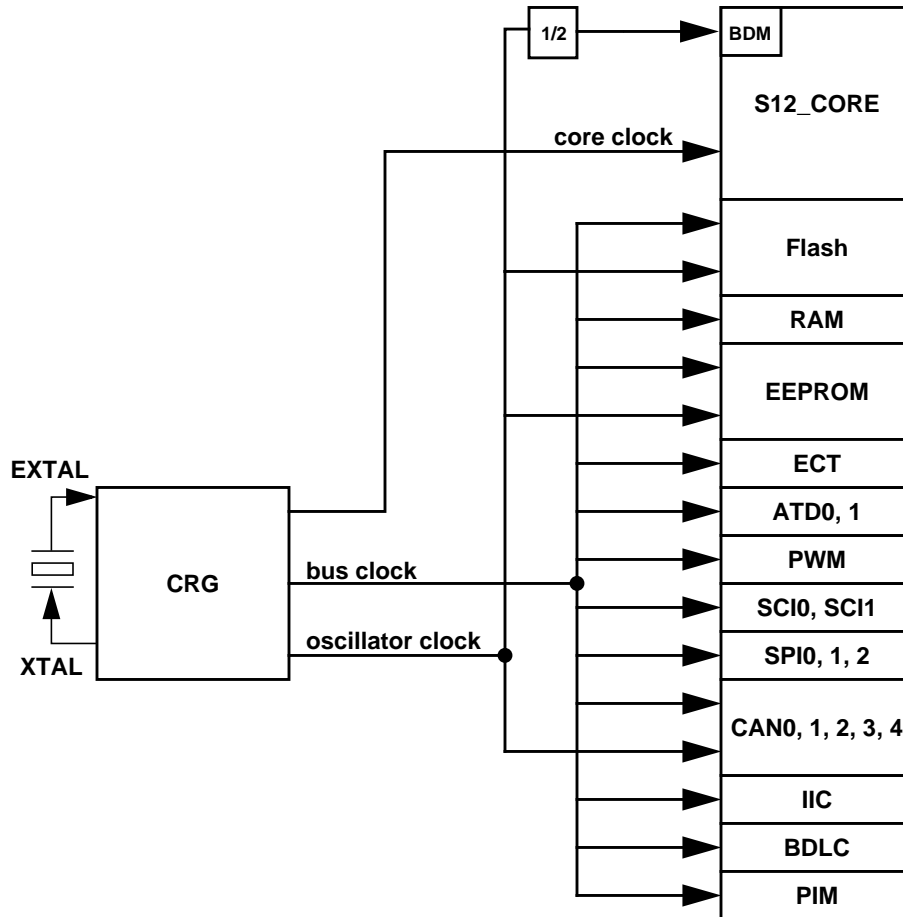

Figure 3-1 Clock Connections
**Figure 3-1** shows the clock connections from the CRG to all modules.